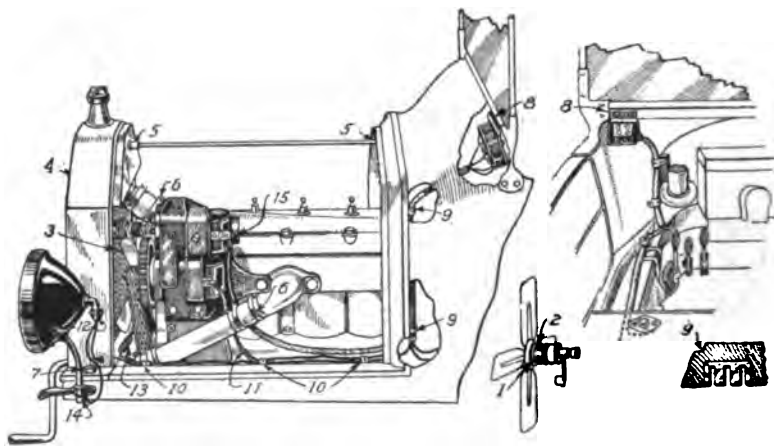

Fig. 387. Installing Gray & Davis Wiring and Lighting Switch on Ford Car
*Remounting Engine Parts.* Fit split pulley 1 to the hub of the fan, Fig. 387, and attach split pulley 2 with four screws; slip a new belt over the fan pulley, attach the fan, and adjust. Place the radiator 4 on its support and screw the radiator rod into the radiator and secure with check nut 3; secure the hose clamps at the top and side water connection 6; place the radiator nuts and secure with cotter pins. Attach the lighting switch at the cowl (left) with  $\frac{1}{8}$ -inch screws